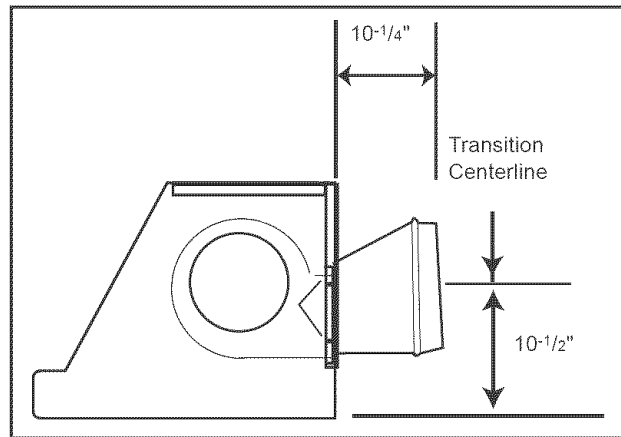

Figure 6
The transition supplied with the hood connects to standard 10-inch round duct. Figure 6 shows the transition connected for horizontal discharge.
12. Before hanging hood, install transition per Fig. 6. Fasten transition with 2 screws (#8 x 3/8 sheet metal, supplied) and tape per code. Note: screws must not hinder damper operation.